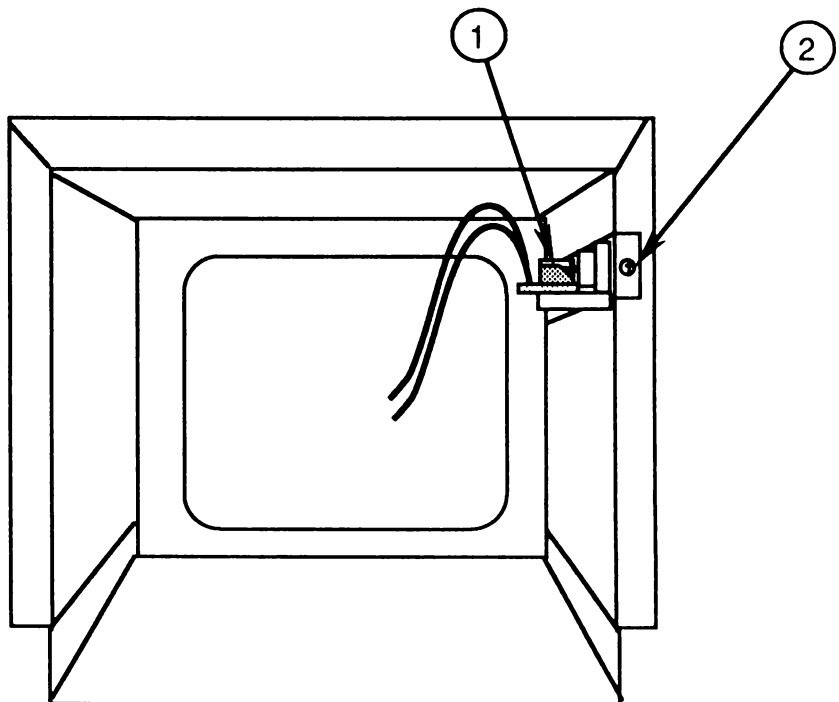

FIGURE 36
4. Locate the on/off switch (Figure 36, #1) inside the rear cover. It is mounted on a plastic bracket attached to the side of the rear cover.
5. Remove the screw (Figure 36, #2) that secures the plastic bracket to the rear cover.
3. Replace the screw (Figure 36, #2) that secures the bracket to the inside of the rear cover.